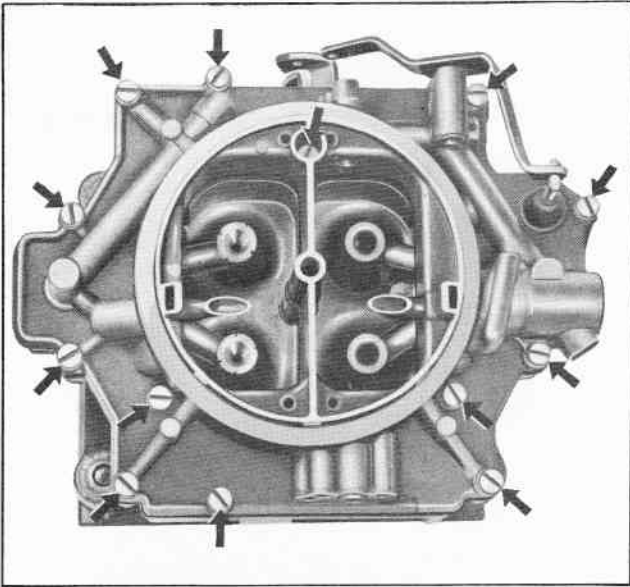

Fig. 9 Location of Air Horn Attaching Screws
10. Remove 13 air horn attaching screws (Fig. 9).